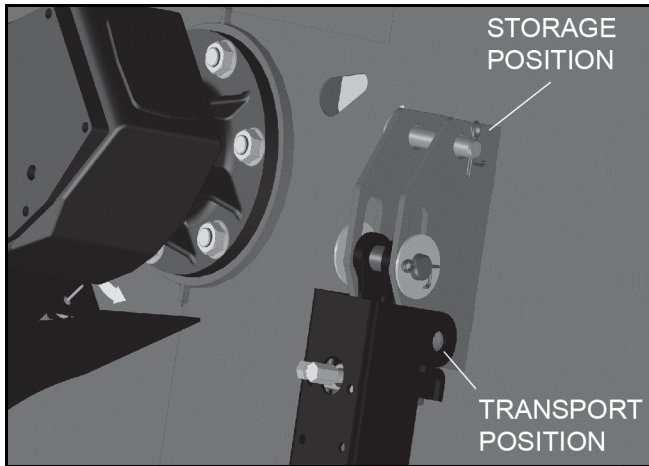

Figure 2. Transport Lock Pin
5. Raise unit with centre lift cylinder and extend wing cylinders. Stop tractor and remove transport lock pins from wing stops and transport stop as shown in Figure 2 & Figure 3, page 15.
5. Lower cylinder against lock-up bars (Figure 2).